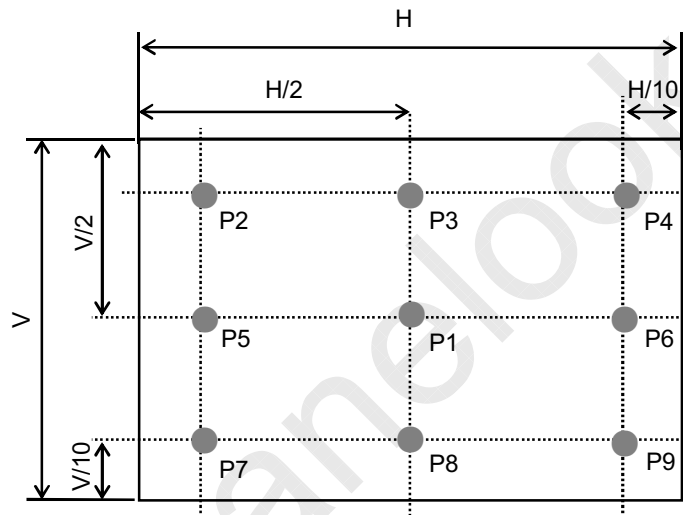

FIG. 2 Measure Point for Luminance
2. Surface luminance(L_{WH}) is luminance value at Center 1 point(P1) across the LCD surface 50cm from the surface with all pixels displaying white. For more information see FIG 2. (By PR880)
For more information see FIG 2.